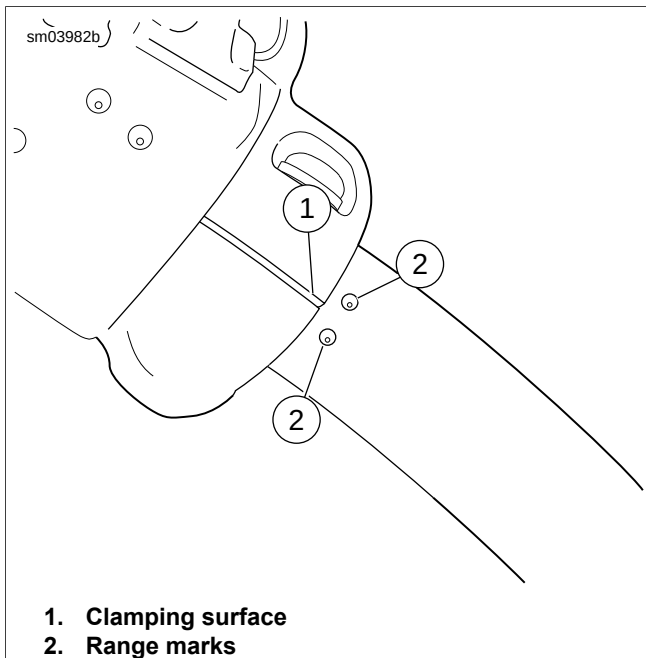
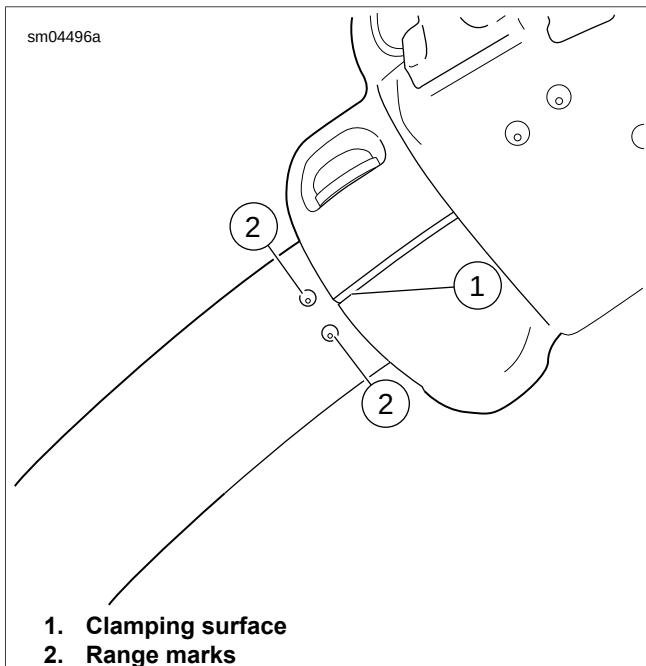

Figure 2-97. Left Hand Control Assembly to Handlebar Alignment
Figure 2-98. Right Hand Control Assembly to Handlebar Alignment
See Figure 2-97 or Figure 2-98. When installing left and right handlebar switch assemblies, make sure that clamping surface (1) stays within the range marks (2) or damage to the wires will occur.